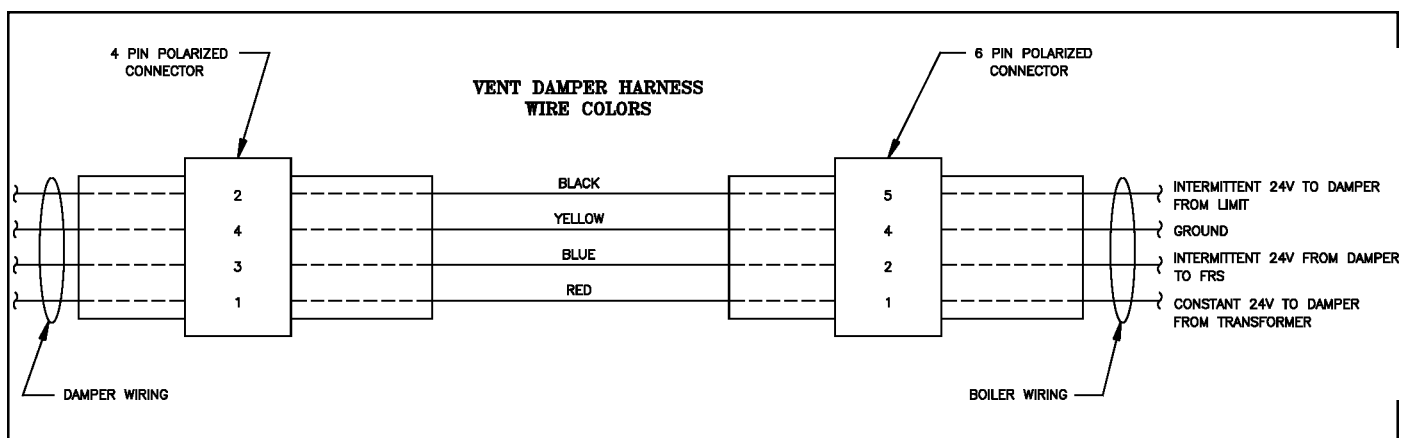

Figure 30: Vent Damper Schematic Wiring Diagram
**F. Vent Damper Sequence of Operation.** See Figure 30 for schematic wiring diagram.